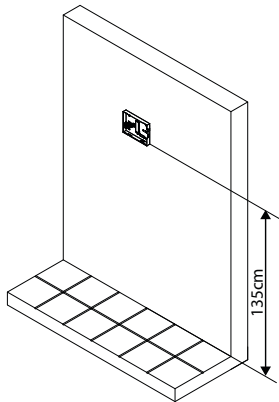
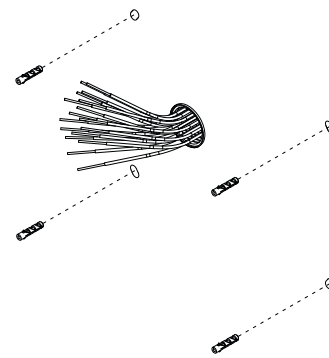

Fig. 8
Fig. 9
2. As shown in **Fig. 8**, place the videointercom back cover against the wall at 135cm height from the floor and mark the fixing holes. Make the holes (5mm diameter) and insert the provided wall plugs as shown in **Fig. 9**;